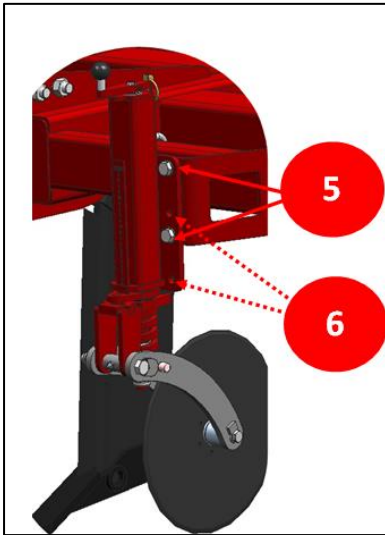
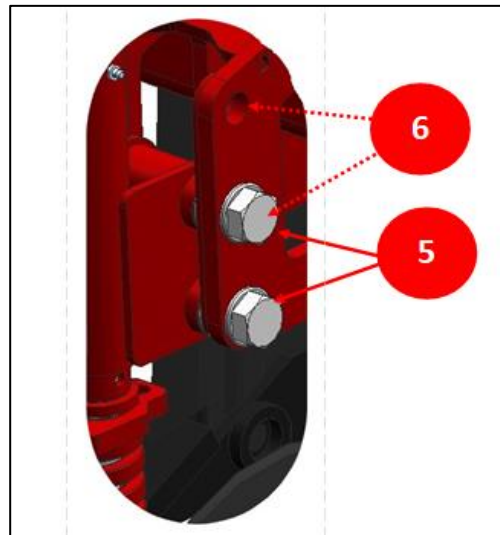

Figure 7 Shear bolt protected machines.
Figure 6 Hydraulic reset protected machines
Mount the spindle of the cutting disc in the lowest possible position (5) on the frame only if you want to work deep, mount the spindle higher (6). See Figure 7 for the Shear bolt protected machines and see Figure 6 for the hydraulic reset protected machines.